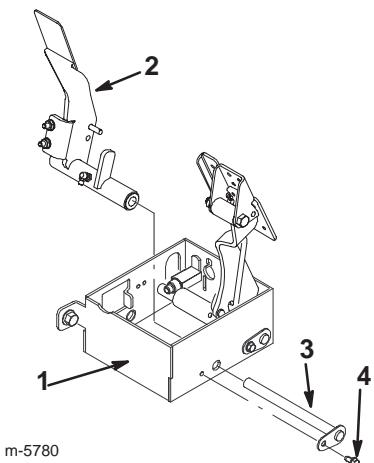

Figure 1
4. Remove the bolt securing the accelerator pedal pivot rod (front rod) and pull out and discard the rod (Fig. 1).
5. Remove the accelerator pedal (Fig. 1).
13. Insert the accelerator pedal assembly into the pedal box and secure it into the front position using the new black pivot rod supplied with the kit and the bolt removed previously (Fig. 1).